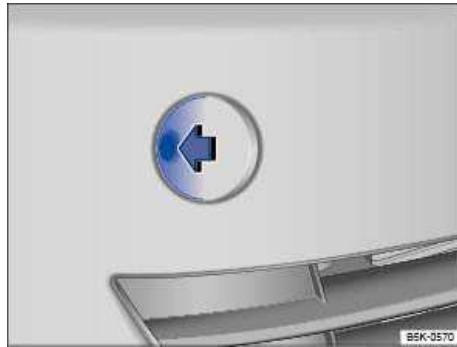

Fig. 184 In the right front bumper: Removing the cover.
- Push on the left side of the cover ⇒ fig. 184 (arrow) so that it pops out.